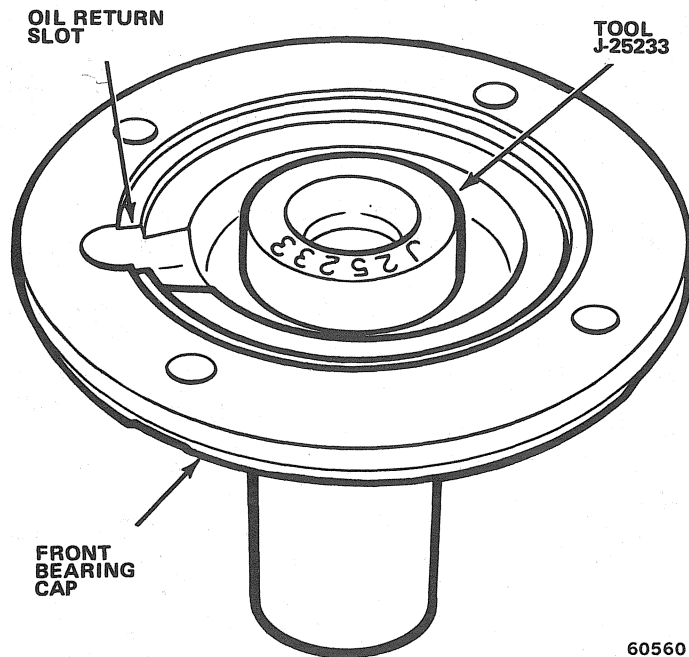

Fig. 2B-40 Front Bearing Cap Seal Installation
(1) Remove shift lever cover, control housing cap, retainer and remove shift lever and spring.
(2) Position transmission case cover in vise so shift forks are facing upward. Use wood blocks to protect cover from vise jaws and do not overtighten vise.
(3) Place all shift forks in neutral position.
(4) Remove shift rail support plate attaching bolts and tabbed washers and remove support plates (fig. 2B-41).
(5) Remove first-second shift rail.
(6) Remove third-fourth shift rail, shift lug and interlock pin.
(7) Remove reverse shift rail.
(8) Remove poppet balls.
(9) Remove shifter interlock rings.
(10) Remove poppet springs.
(11) Remove fulcrum pins.
(12) Remove cover from vise.
(13) Clean all components in solvent and dry using compressed air.
(14) Inspect all components. Replace any components that are nicked, cracked, broken or excessively worn.